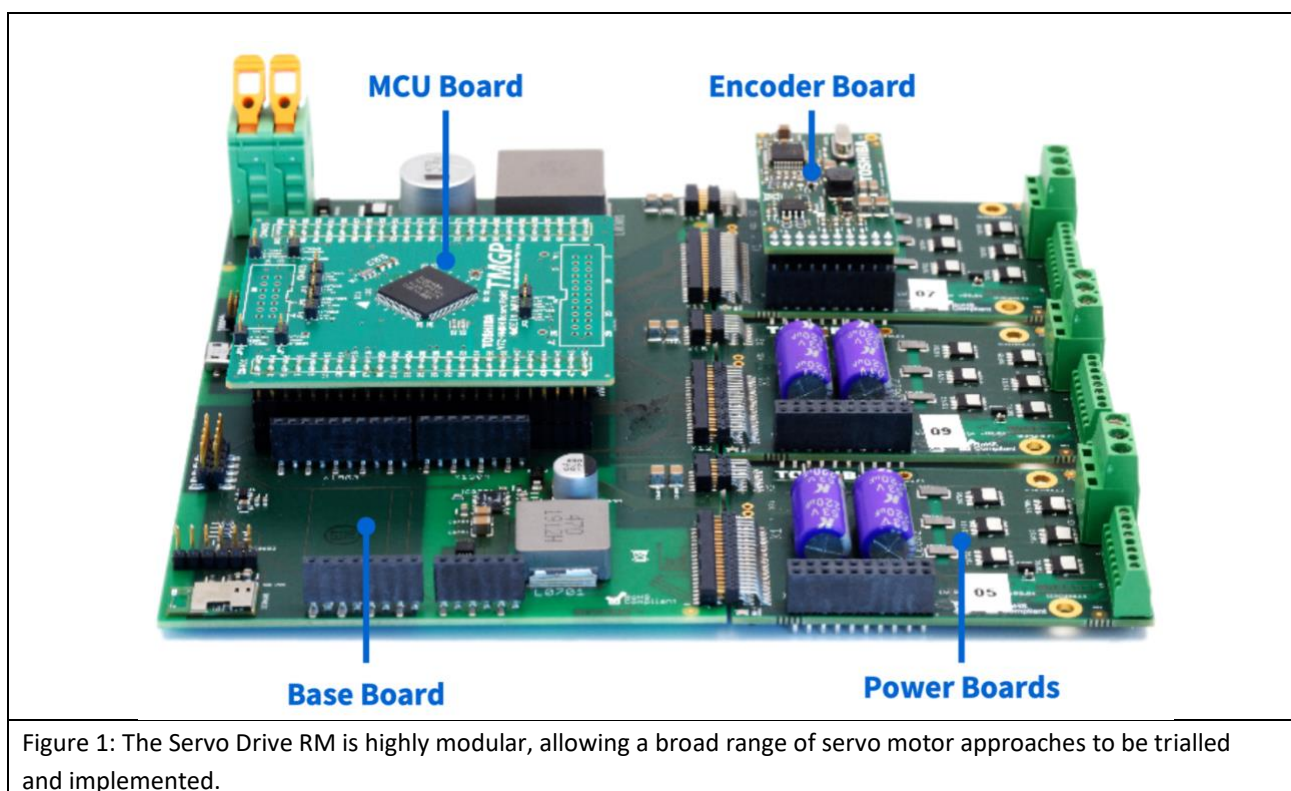

Figure 1: The Servo Drive RM is highly modular, allowing a broad range of servo motor approaches to be trialed and implemented.
To simplify the efforts of engineering teams starting along this road, Toshiba has developed a highly flexible and configurable Servo Drive Reference Model (RM) that combines all the elements needed (figure 1). Consisting of a main board that links all the pieces together, the modular approach allows the controller, power stage, and encoder or resolver used to be swapped in and out, allowing rapid evaluation of the pros and cons of different approaches.